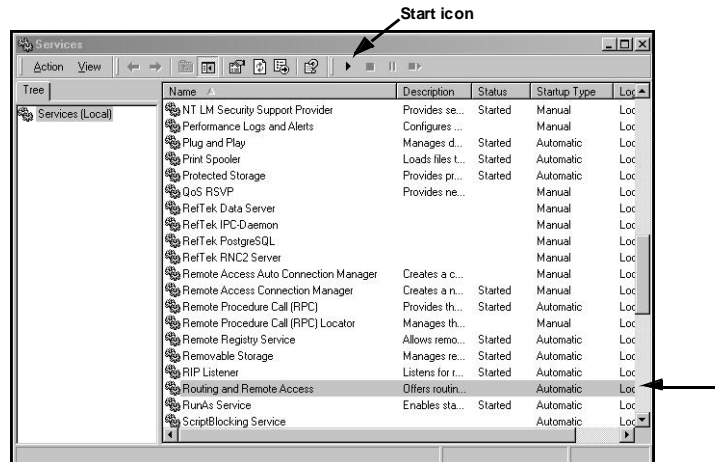

Figure 38 Services Window
8. Click **OK** when ready (Figure 38).